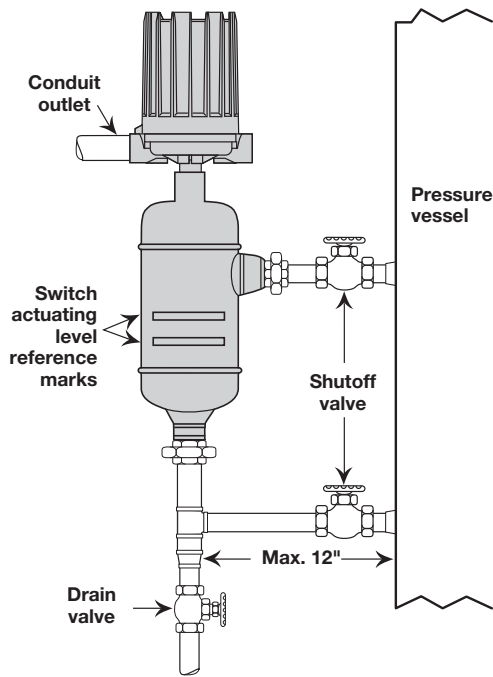

Figure 3
Figure 3 shows a typical piping installation of a MAGNETROL Series 3 control to a pressure vessel. Level decals on control identify the actuation levels for the bottom switch mechanism of a unit with three switches at minimum specific gravity. To find the actuation levels for a unit with one switch at different minimum specific gravities, refer to the charts in *Actuation Levels, Steam Service Ratings and Specific Gravities, Section 5.2.5*, on page 24.
- 5b. Close shut-off valves (if so equipped) to isolate control from tank. Drain off liquid in float chamber. Refer to **Figure 3** on page 5.